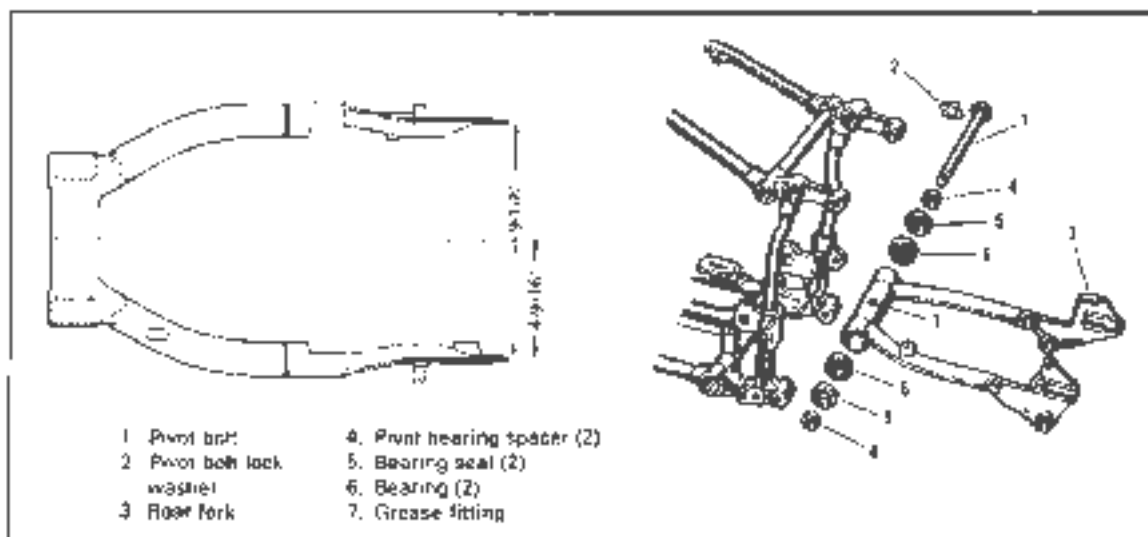

Figure 2-56. Rear Fork: Exploded View
### DISASSEMBLING REAR FORK (Figure 2-56)
4. See Figure 2-56. Turn back locking ear on pivot bolt lock-washer (2) and turn out pivot bolt (1). Remove fork (3) from frame. With appropriate screwdriver pin, push out bearing spacer (4), bearing seal (5) and bearing with outer race (6) from each side of fork pivot bearing.
2. Rough check the rear fork for correct alignment. Dimensions shown in Figure 2-56 will provide enough information to determine if fork is far enough out of alignment to require realigning or replacement. Straightening a badly bent fork requires special tools and fixtures for holding, bending and gauging.